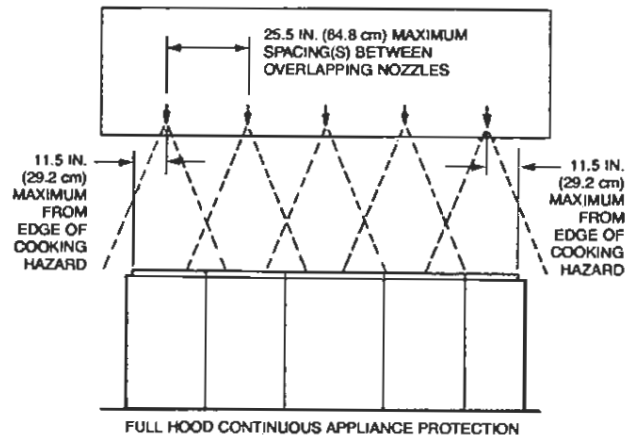

FIGURE 95
- ▶ See Figure 95 (full hood continuous protection) and Figure 96 (multiple group protection).
- 1. For each group of protected appliances under a common hood(s), the overlapping nozzles must be located from right to left so that each end nozzle is located a maximum of 11.5 in. (29.2 cm) inside the outside edge of the cooking hazard of each end appliance, and the inside overlapping nozzles must be located between the two end nozzles at a maximum spacing of 25.5 in. (64.8 cm). See Figures 95 and 96.